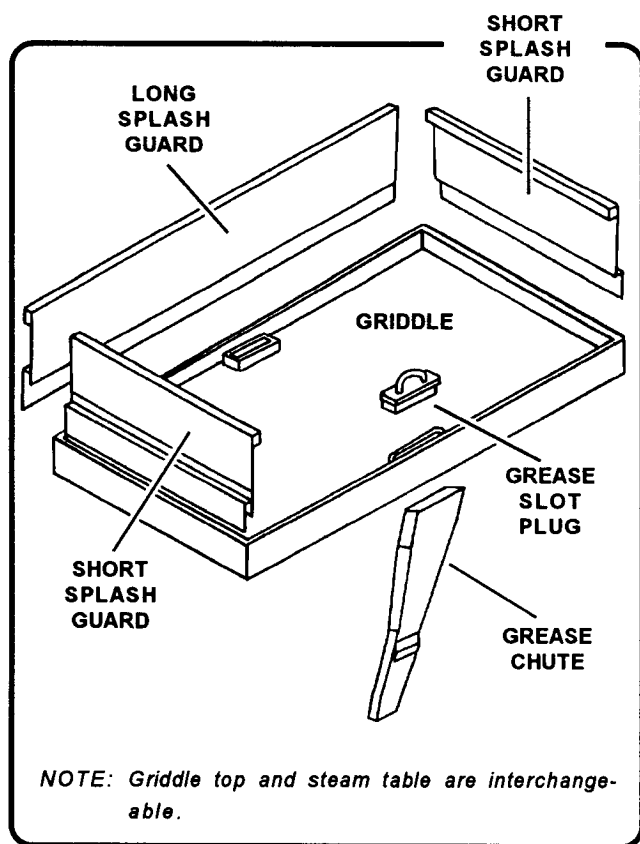

Figure 10-5. Griddle top assembly
**Griddle, oven, and pot cradle.** The griddle (Figure 10-5), the oven (Figure 10-6), and the pot cradle assembly, with M2 burners, are provided for roasting, baking, grilling, boiling, and maintaining serving temperatures of hot foods.